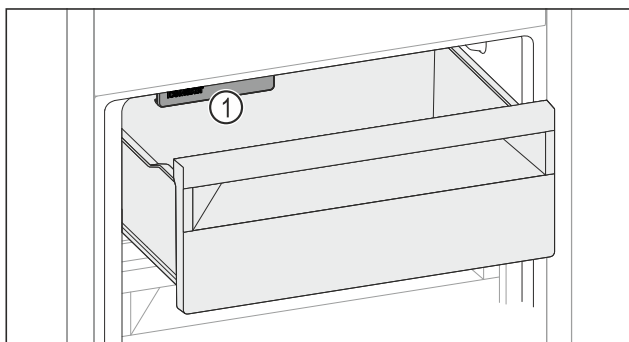

Fig. 223
- Watch out for the IceMaker Fig. 223 (1).